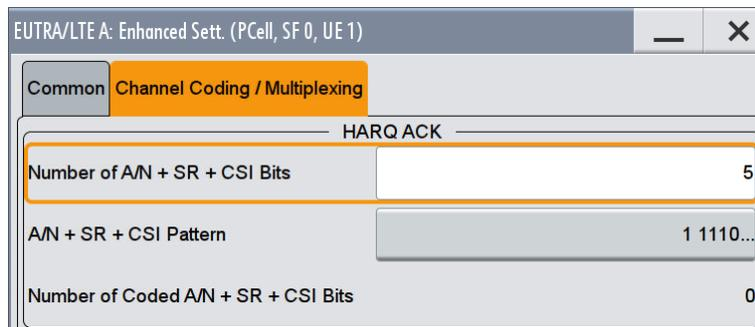

Fig. 3-127: Set five bits ACK pattern to '1111' + '0'
9. Set the **Number of Bits** to 5 (4 ACK + 1 SR) and the **ACK/NACK Pattern** to '11110' (Fig. 3-127)